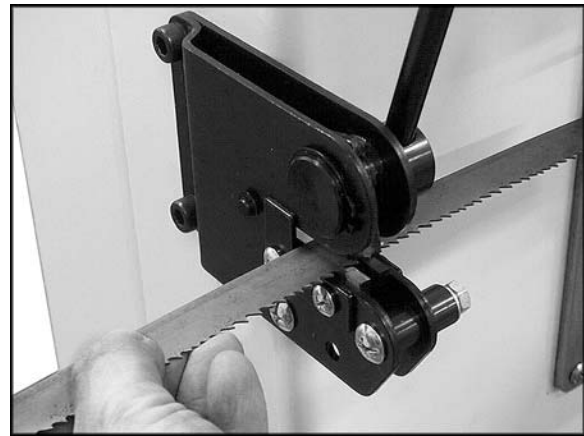

Figure 12
2. Position blade against back of square cutting guide of shear. See Figure 12. Make sure blade is held square with shear knife, so that cut will be square with blade.